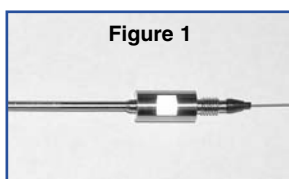

Figure 1
5. Place a polyimide ferrule (cat.# 21043) on the end of the transfer line that protrudes from the MS (Figure 1).
6. Using a scoring wafer or similar device, make a clean, square cut just before the ferrule, then adjust the transfer line to extend approximately 3mm from the tip of the ferrule (Figure 1). This ensures that the transfer line will bottom out in the EZ No-Vent™ connector, and will eliminate dead volume in the connection.